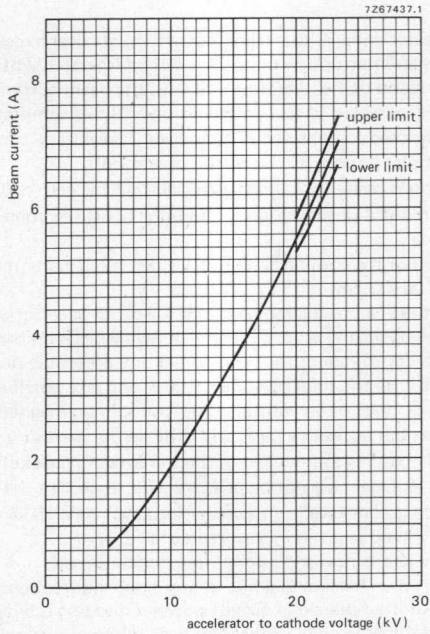

Fig. 4.
8. If the accelerator electrode is connected to the body (ground) via a 10 k Ω resistor, the beam current is within \pm 5% of the value given in the graph of Fig. 4.